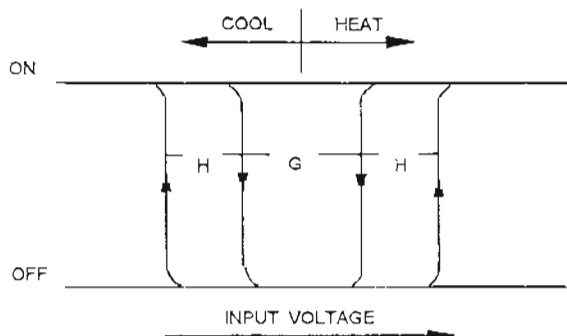

Figure 3-6. Control performance.
a. The thermistor T1 senses the temperature at the control point. A change of temperature at T1 causes a change of its resistance and a corresponding voltage change at point "III" of the sensing bridge. The sensing bridge also consists of R1 and R3 with values close to the set point of T1, and P1 with R24 for the purpose of adjusting the set point. The bridge voltages are applied to the bipolar operational amplifiers (op-amps) U2 serving as voltage comparators. When the voltage "III" is higher than voltage "II", the system will operate in the heat mode. When the voltage "III" is lower than voltage "I", the system will operate in the cool mode. The gap between the two modes is determined by R2, and is directly proportional to the value of the resistor (fig 3-6).